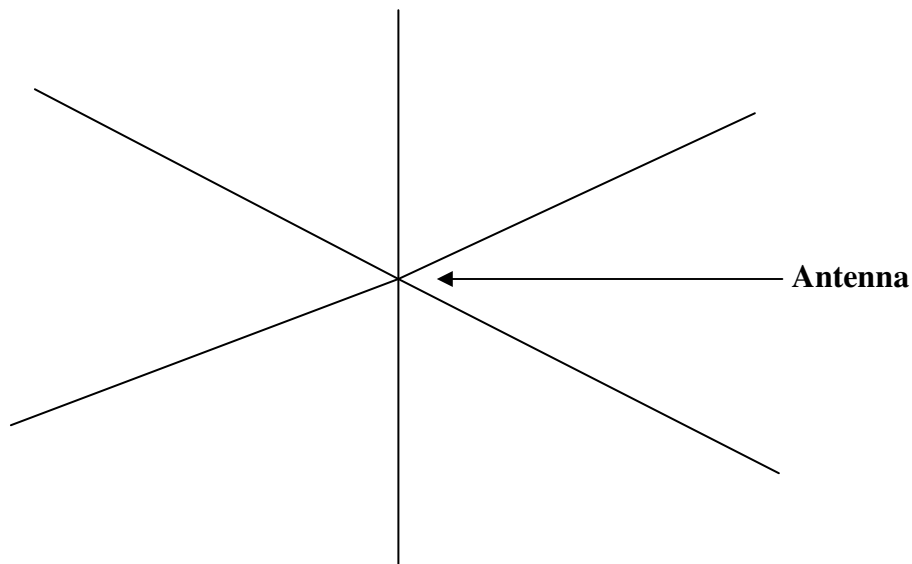

Figure 3
2. Fan out radials as shown in figure 3.
3. Make sure radials are equally spaced as shown below in figure 3.
This is only a representative layout of the ground radials. Variations of figure 3 will still provide good performance.